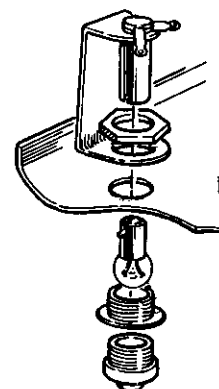

FIGURE 2A
- () Refer to Figure 2A and mount the pilot lamp socket at PP. Insert the 6.3V bulb in this socket.